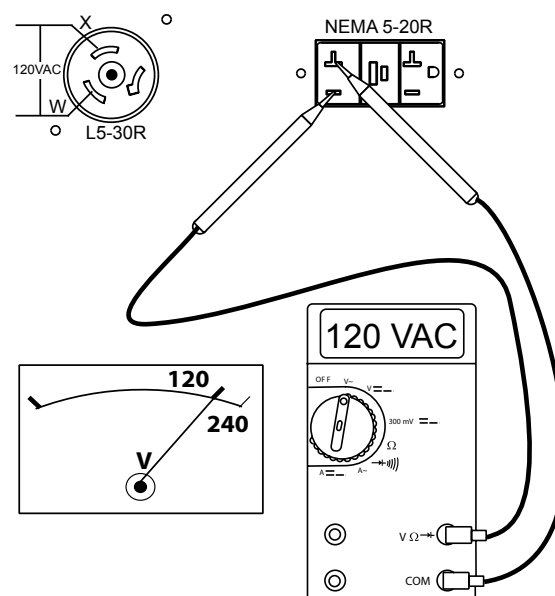

Figure 26. 120V GFCI/L5-30R Receptacles
- Read the voltmeter on front panel of generator (Figure 26) and verify that 120 VAC is displayed. Using an external voltmeter as shown in Figure 26, verify that 120 VAC is present at the 120V twist-lock and duplex receptacles.